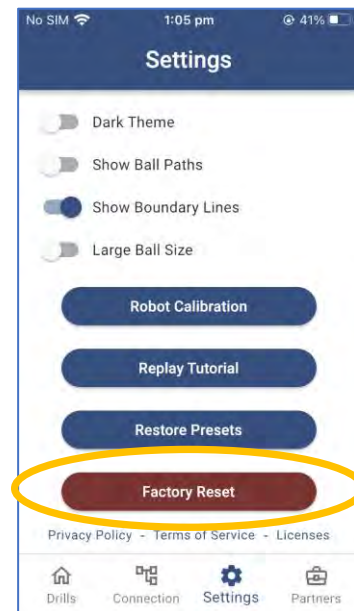

Figure 3-22
3.3.5 Factory Reset (Figure 3-22)